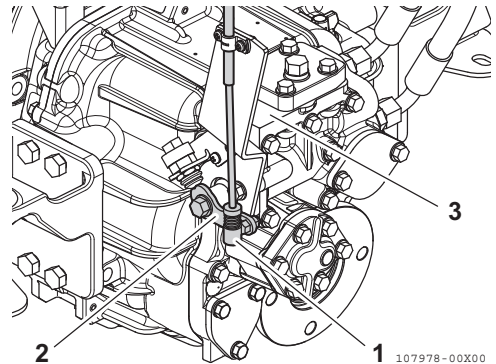

Figure 5
1. Ensure that the remote control lever (**Figure 5, (2)**) moves to the correct position when the remote control handle is in the NEUTRAL, FORWARD and REVERSE positions. Use the NEUTRAL position as the standard for adjustment.
2. To adjust, loosen and retighten the cable fitting (**Figure 5, (1)**).